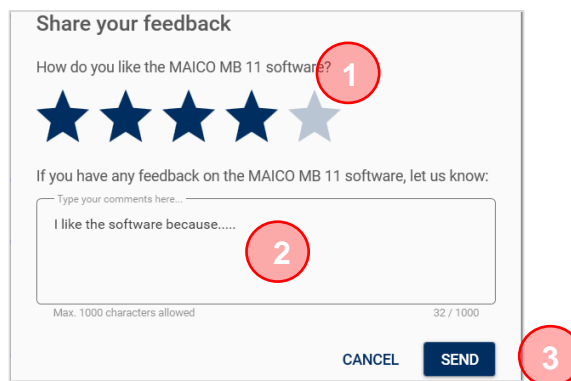

Figure 76
If you want to provide MAICO feedback on your experiences with the MB 11 Software, you can use the integrated Feedback form. Leave a star rating (1) and let us know how what you like and what can be improved (2). Press **SEND** (3) to share your ideas with MAICO (Figure 76).